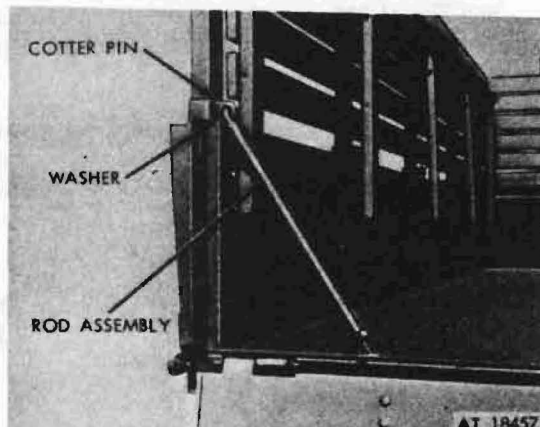
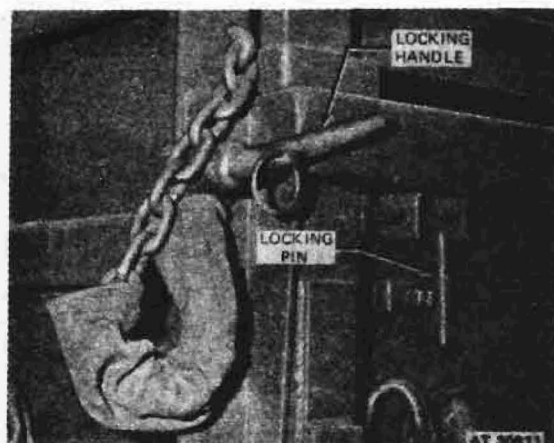

Figure 173.5. Dropside stabilizer rod.
Figure 173.7. Locking handle and locking pin assembly.
(1) Remove the paulin with the end curtains (par. 91).
(2) Remove the end and intermediate bows with the straps (par. 92).
(3) Refer to figure 173.5 and remove stabilizer rod.
- (4) Install stabilizer rod (fig. 173.5).
- (5) Install the end and intermediate bows (par. 92). Install the paulin with the end curtains (par. 91).
a. Lowering Tail End Gate. Loosen locking handles to rear of the left and right sides (fig. 173.7). Rotate pin 1/4 turn and pull through slot. From outside cargo body, grasp top of end gate and pull it toward the rear. Do not allow end gate to drop.
b. Lowering Dropside. If side rack is attached remove locking pin (fig. 173.7) and stabilizer (fig. 173.5) before attempting to lower side. Sides may then be lowered with rack attached or removed. Do not allow sides to drop down as it may damage the racks and/or mud guards.